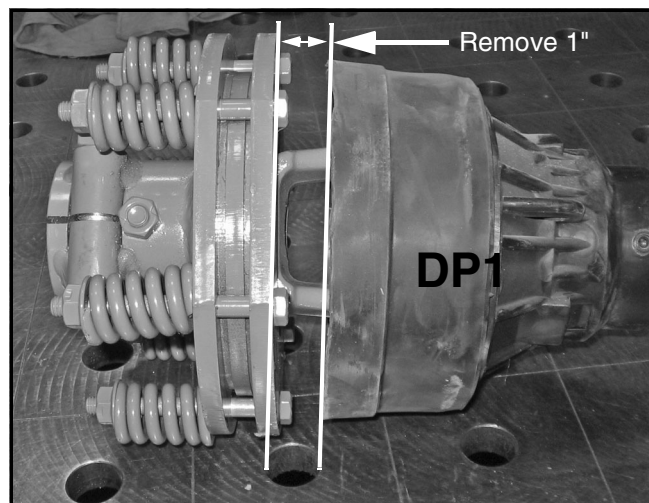

Figure 20. Slip Clutch Bell Shield
1. Remove approximately 1-inch of material from bell shield so it will not interfere with slip clutch during operation. See Figure 20.